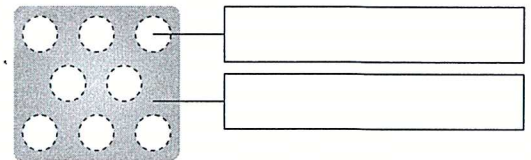

Figure 14
3. **Figure 14** shows metallic bonding.